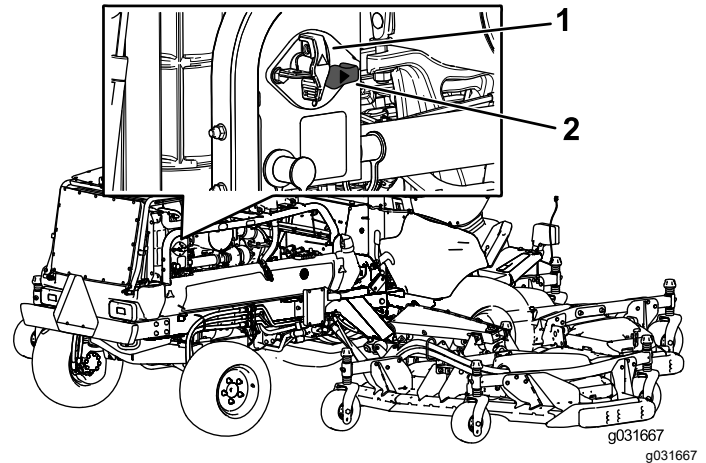

Figure 22
1. Rotate the battery-disconnect switch to the ON position (Figure 22).